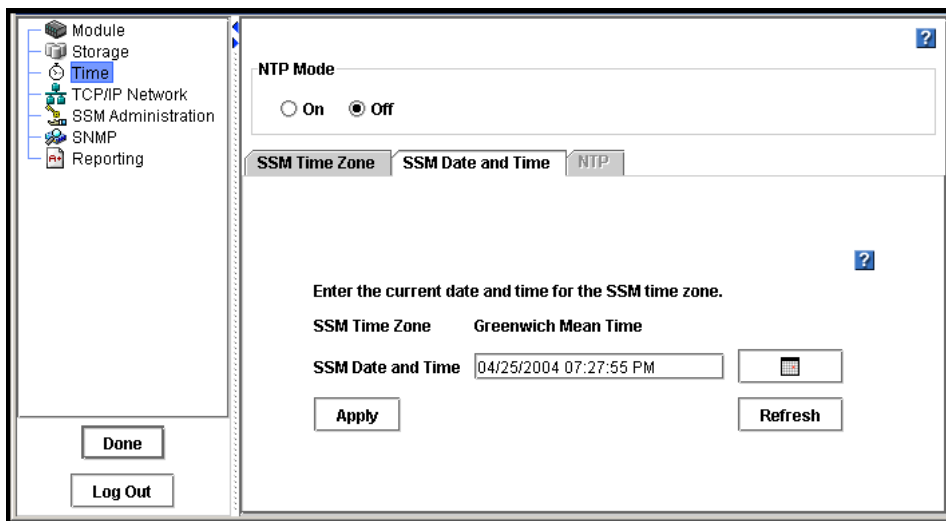

Figure 97. Setting the SSM Date and Time
2. Click the SSM Date and Time tab to bring it to the front, shown in Figure 97.